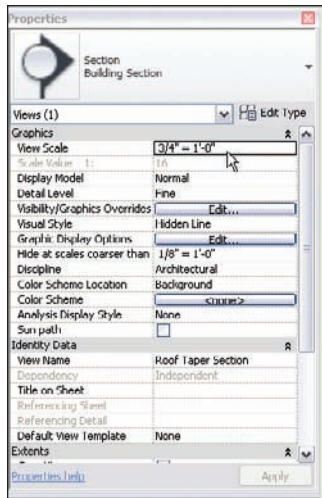

FIGURE 7.18 Changing the properties of the section
5. Change the View Name option (under Identity Data) to Roof Taper Section (see Figure 7.18).